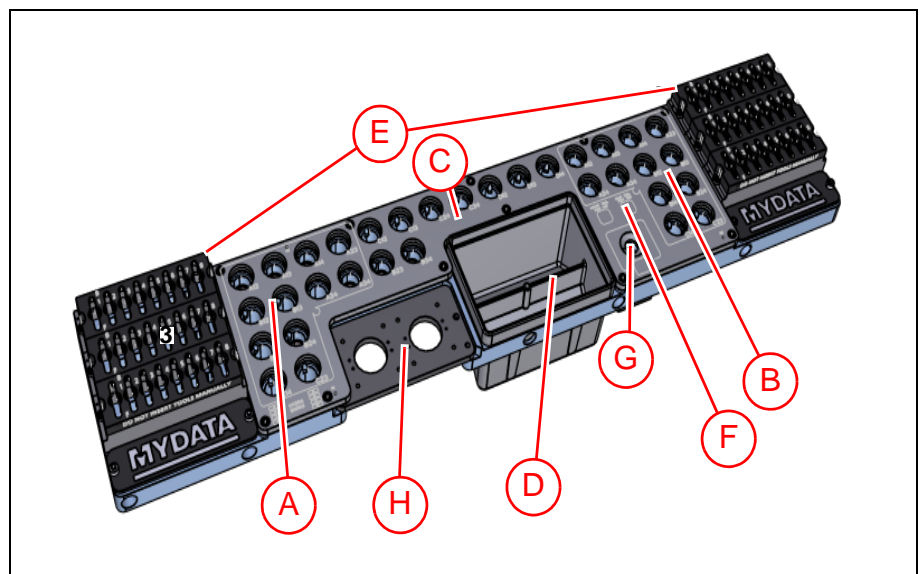

Figure 7-4. MY100DX Tool bank.
- Left X-wagon mount tools ('A' in Figure 7-4).